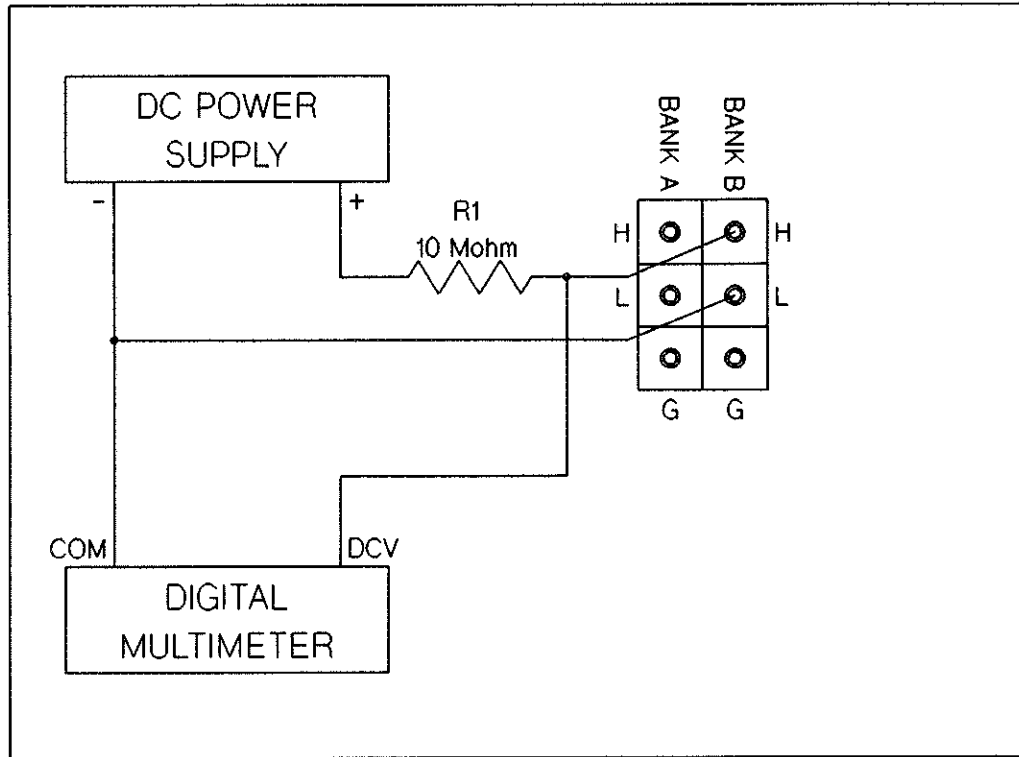

Figure 8-22 HP 44705A/H Bank B HIGH to LOW DC Isolation
33. Connect the test circuit between the Bank B HIGH and LOW common test points on the test fixture as shown in Figure 8-22.